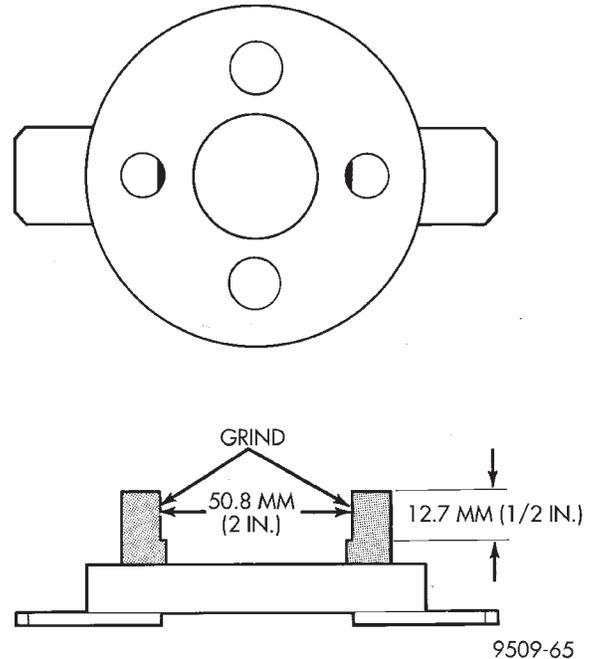

Fig. 25 Modification to Special Tool
(1) Remove timing belt cover and belt. Removal procedure is outlined in this section. Remove camshaft sprocket bolt, with the Modified Special Tool C-4687-1 as shown in (Fig. 25).
(2) Hold camshaft sprocket with modified tool while removing bolt. Remove sprocket from camshaft.
(2) Install camshaft sprocket retaining bolt. Hold camshaft sprocket with Special Tool C-4687-1 (Fig. 25) and tighten bolt to 115 N·m (85 ft. lbs.).